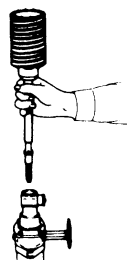
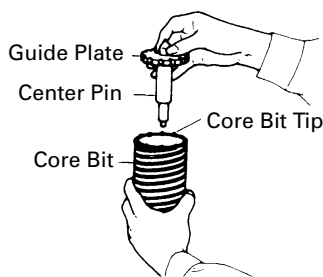

Fig. 11
Fig. 12
- (2) Mount the core bit shank to the rotary hammer. (Fig. 11)
- (3) Insert the center pin into the guide plate until it stops.
- (4) Engage the guide plate with the core bit, and turn the guide plate to left or right so that it does not fall even if it faces downward. (Fig. 12)